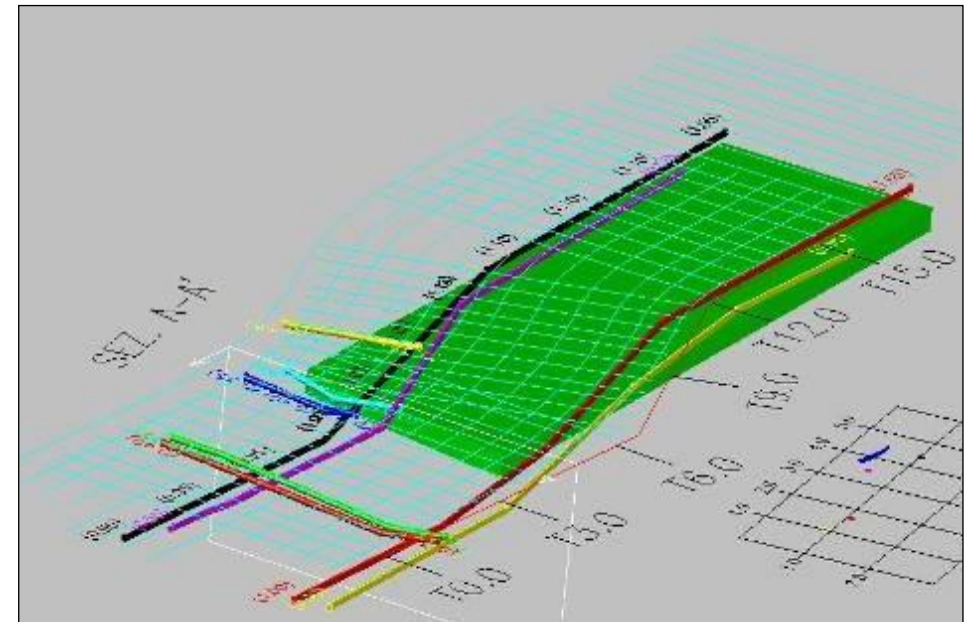

Fig. 131 – 3D View with rendering activated
11. The **Shade 3D Objects** command () automatically execute a “rendering” of all the 3D elements in the AutoCAD file (Fig. 131).